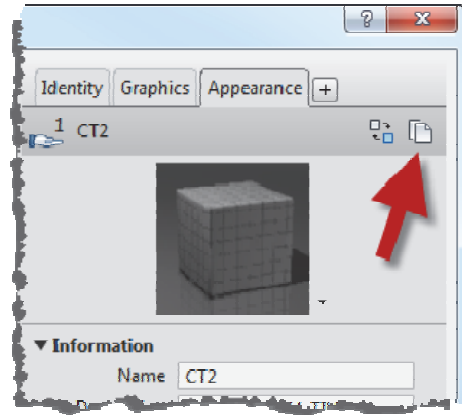

FIGURE 4-4.12 Duplicate asset icon
43. On the *Appearance* tab, click the “Duplicate this asset” icon (Figure 4-4.12).
45. Now switch back to *Material* CT2 and rename the *Appearance* asset CT2(1) to **CT2**.